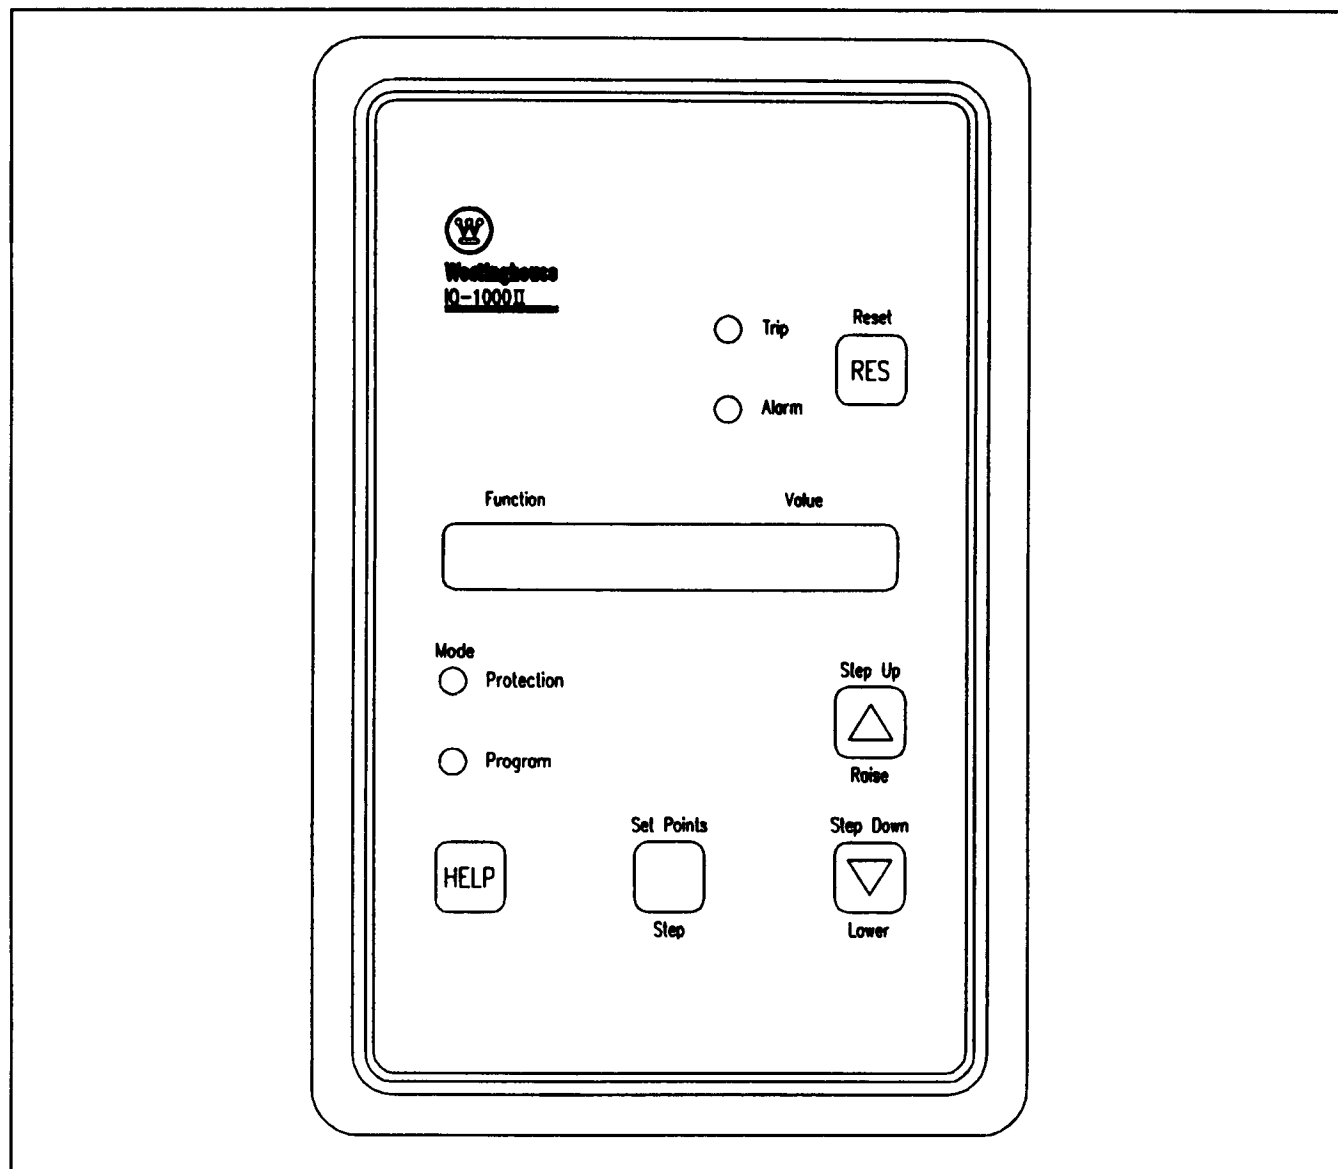

Figure 4.1 — IQ-1000 II Operator Panel
**4.1 General Description** — The IQ-1000 II's faceplate is a plastic and polyester material designed to withstand a variety of harsh industrial environments. All indicators, displays and pushbuttons are located on the faceplate (see Figure 4.1). White colored lettering relates to the Protection mode and blue colored lettering relates to the Program mode. A keyswitch, which switches the IQ-1000 II between the Program and